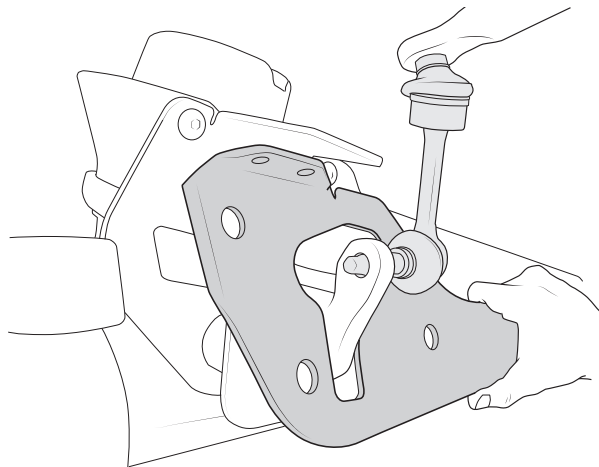

Figure 18
- d. Position the forward track bar bracket and insert the sway bar links back in the factory location and torque to **110 lb-ft** before installing any hardware (fig. 18).
- d. Torque all hardware at this time (fig. 18) **EXCEPT: Coil Spring mount hold down bolts and frame-side track bar bolt.**